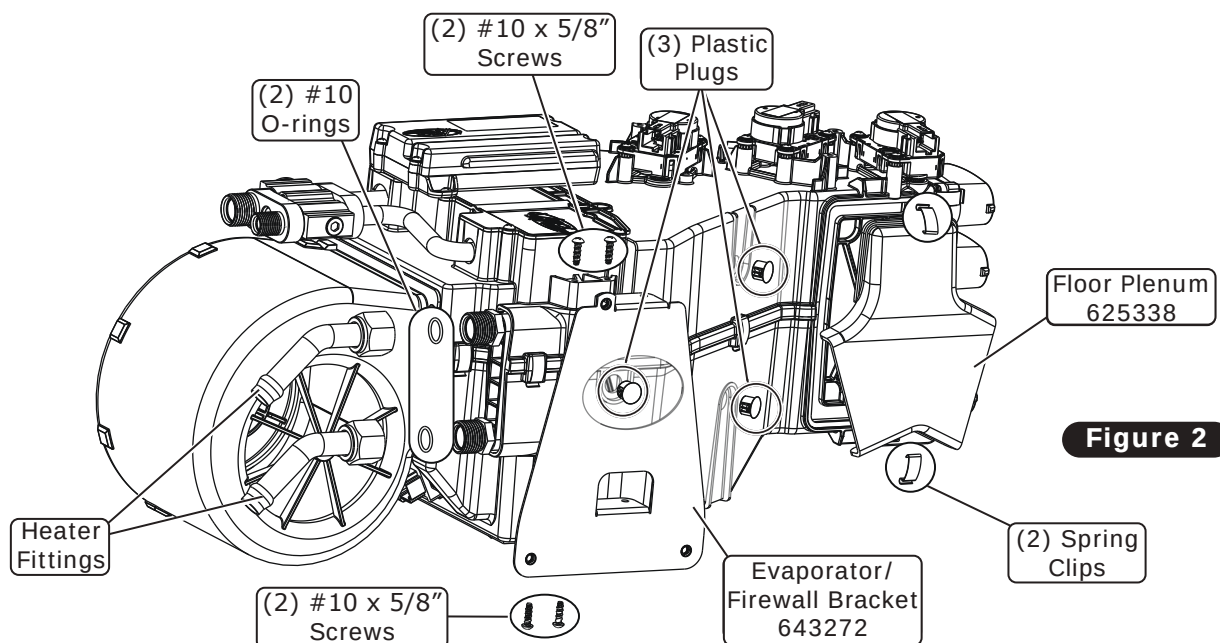

Figure 2
2. Install (4) 1/4-20 x 3/4" black serrated flange bolts onto the firewall cover in the holes shown in Figure 2, below.
3. Secure the bolts in place with (4) 1/4" pushnut retaining bolts from the opposite side of the firewall cover (See Figure 2, below).
3. Install the floor plenum as shown in Figure 2, below, using (2) spring clips.
4. Install the (3) plastic plugs at the locations shown in Figure 2, below.
5. Install the evaporator/firewall bracket using (4) #10 x 5/8" screws (See Figure 2, below).
6. Install the heater fittings with properly lubricated O-rings (See Lubricating O-rings, Page 8) as shown in Figure 2, below.